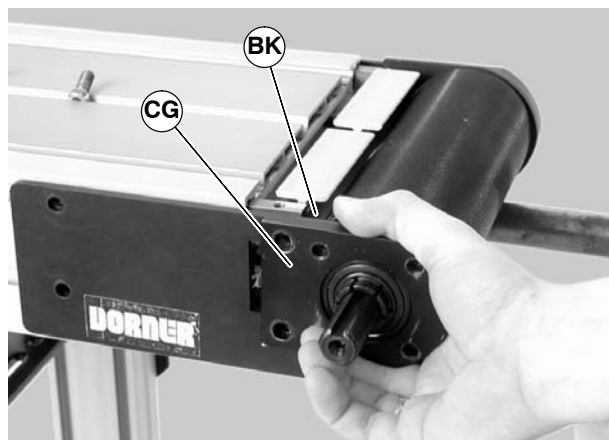

Figure 71
6. Remove the outer headplate assembly (CG of Figure 71), and inner spacer (BK).